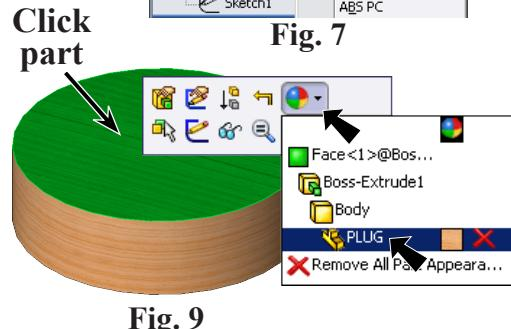

Fig. 9
Step 1. Click the Plug to select part, click Appearances Callout on the Content menu and click PLUG, Fig. 9.